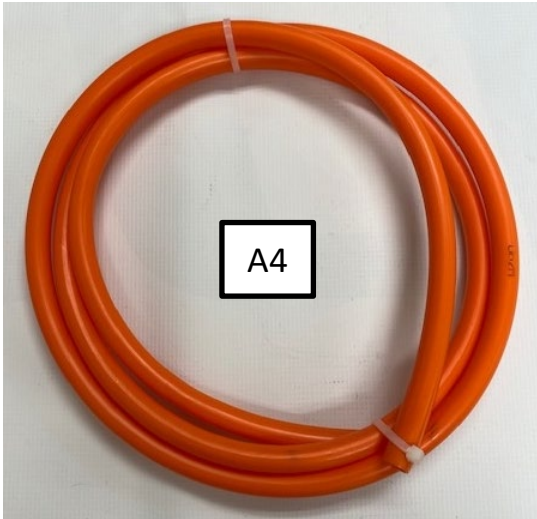

Figure 20
- A. Start by pushing the Safety Tube (A4) through the two Safety Tube Supports (A2) and then push the safety tube A4 onto the 2 Safety Tube Studs (A1). See Figure 20.